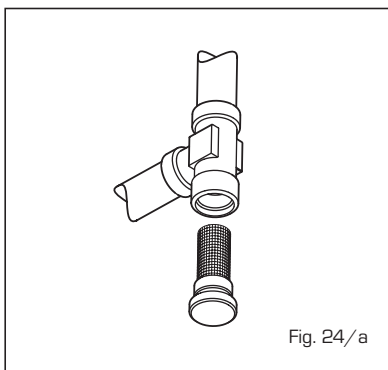

Fig. 24/a
4.7.2 Limpieza "Aqua Guard Filter System" (fig. 24/a)